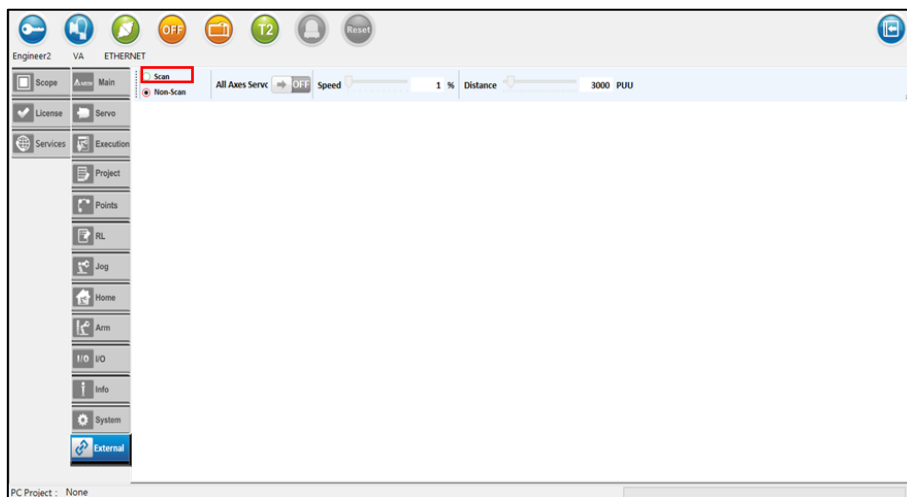

Figure 3.13-4 Detect remote expansion modules
2. On the Main screen, click the **External** tab, and then click **Scan** to detect the I/O expansion modules, as shown in Figure 3.13-4.